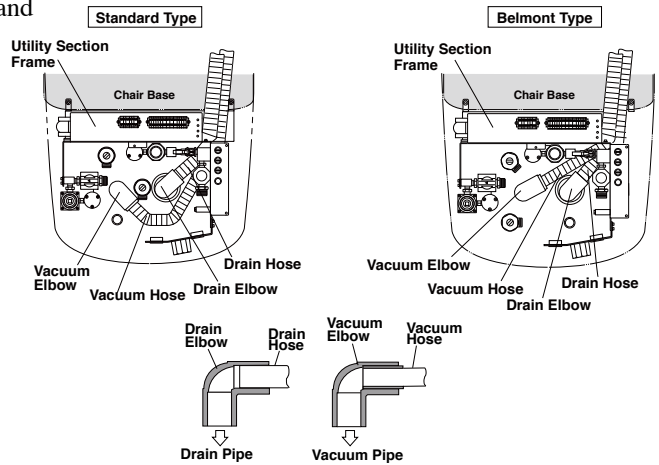

Fig.6-8 Drain Hose and Vacuum Hose Connection
(3) Drain Hose and Vacuum Hose Connection
- A. Run the drain hose and vacuum hose through and under utility section frame. (Fig.6-8)
- C. Insert the drain hose elbow and vacuum hose elbow into each pipe. (Fig.6-8)